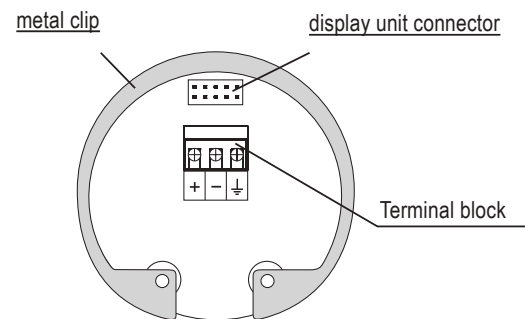

Fig. 17: Inside view of screw terminals of the level meter with current output UPS 1000 \_ \_ \_ - I
5. Connect the cable to the screw terminals according to the diagram in Fig. 17 or 18. Firmly tighten the terminals and the cable outlet.